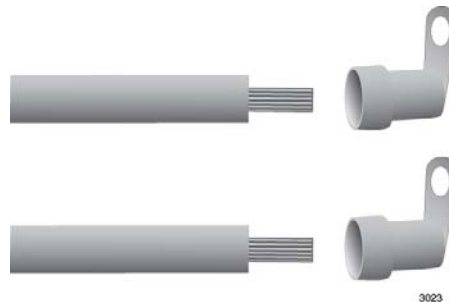

Figure 119. Attaching the Power Wires to the Right Angle Terminals
3. Insert the power wires into the right angle terminals included with the power supply and use a crimping tool to secure the wires to the terminals. See Figure 119,